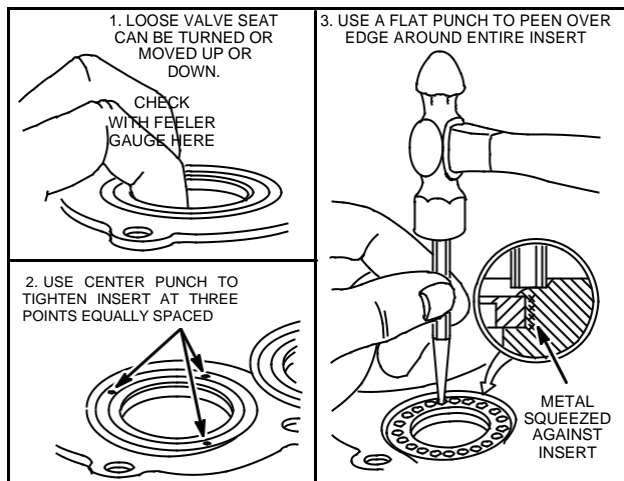

Fig. 526 – PEENING VALVE SEAT
**NOTE:** Aluminum alloy cylinder models. Use the old insert as a spacer between the driver and the new insert. Drive new insert until it bottoms. Top of insert will be slightly below cylinder head gasket surface. Using a flat punch, peen over edge around entire insert as shown in Fig. 526.